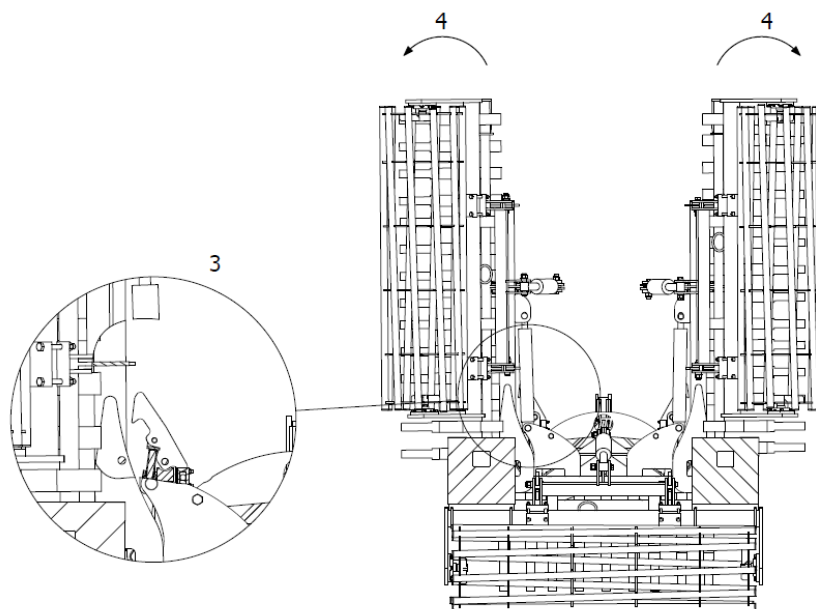

Figure 9 Machine opening sequence (3 - release of the hook of the hydraulic wing lock mechanism, 4 - opening of the machine wings)
3) Unlock the wing locking mechanism (fig. 9),